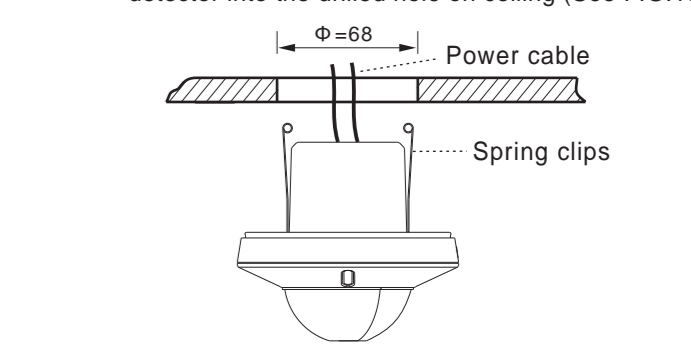

FIG.16
- 3.4.2.4 Close up detector's two spring clips and insert detector into the drilled hole on ceiling (See FIG.16).